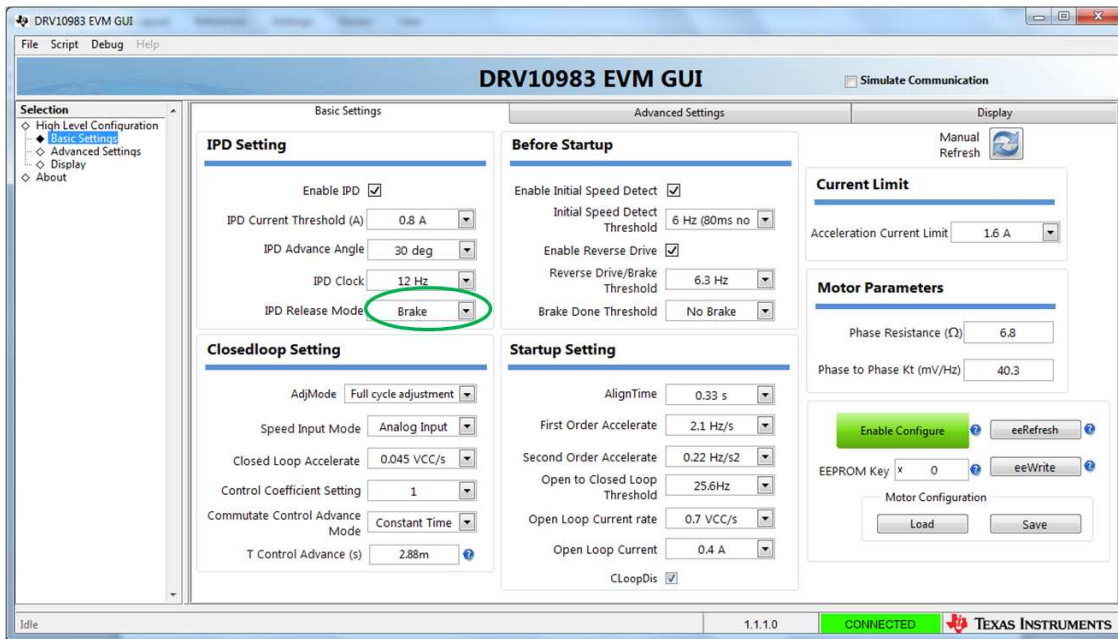
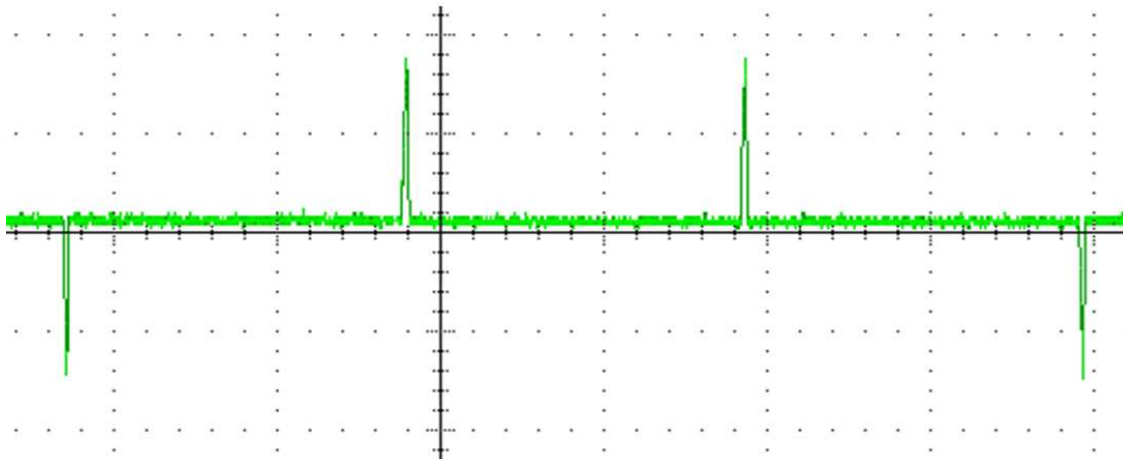
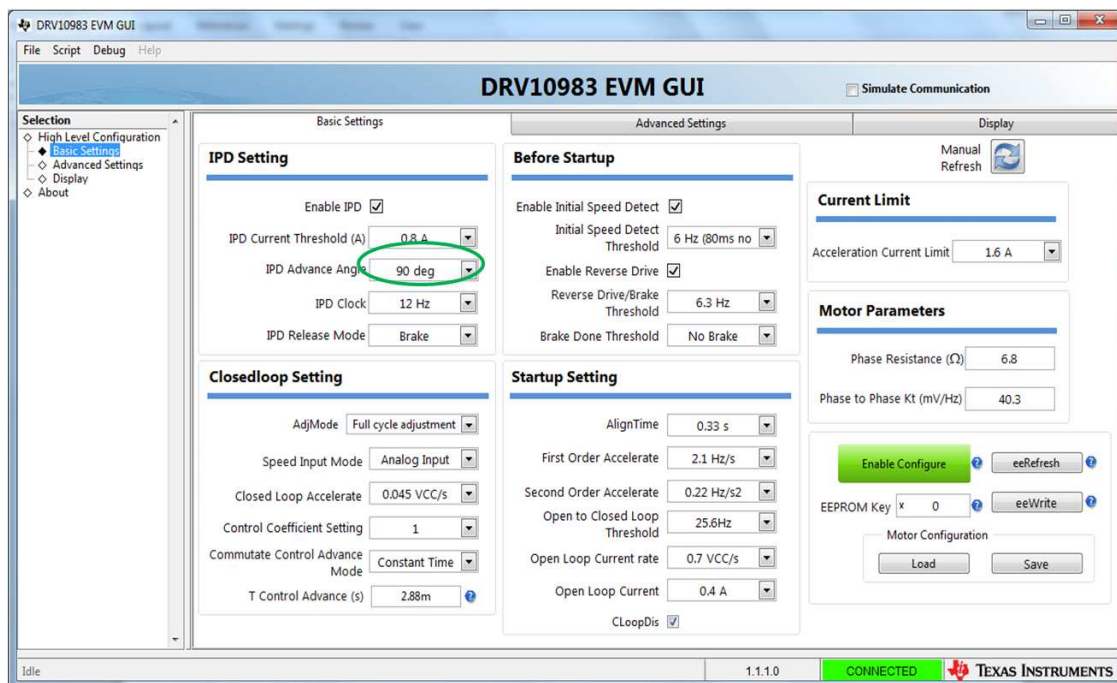

Figure 31. DRV10983x/75 EVM GUI Screenshot
Figure 33. Motor Phase Current During Tristate Mode
Figure 34. DRV10983x/75 EVM GUI Screenshot
10. IPD release mode - change IPD release mode using GUI (see Figure 31). Monitor phase current while evaluating Brake or Tristate mode. Turn ON motor in brake mode and capture phase current during IPD process, then turn OFF motor (see Figure 33). Change IPD release mode to tristate mode and repeat same process for this mode (see Figure 34).
11. IPD advance angle – selecting 90 degrees (see Figure 34) to achieve maximum torque during startup. Turn ON the motor commutation and spin motor in open loop. Visually make sure motor is spinning appropriately.